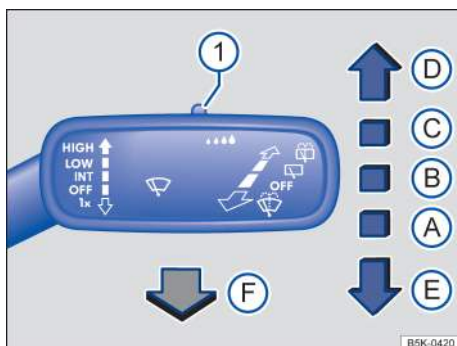

Fig. 80 Operating the front windshield wipers.
→ fig. 80, → ①:
- ① OFF Wiper switched off.
- ② INT Intermittent wiping for the front windshield. Rain sensor active (if equipped).
- ③ LOW Slow wiper speed.
- ④ HIGH Fast wiper speed.
- ⑤ 1x One-tap wiping – brief wiping. Hold the lever down longer to wipe more often.
- ⑥ Pull the lever toward the steering wheel to activate the front windshield washers, then release.
- ⑦ Switch for adjusting the windshield wiper interval settings (vehicles without a rain sensor) or